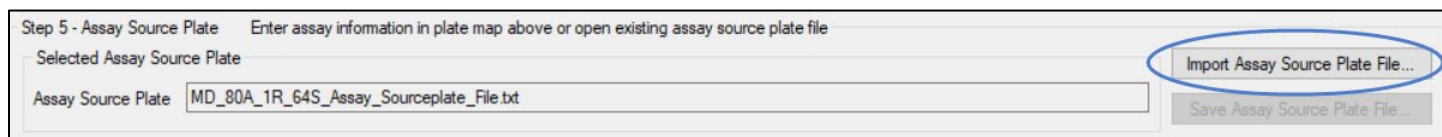

Figure 36. Loading an assay source plate file.
- a. Load an assay source plate file (Figure 36)